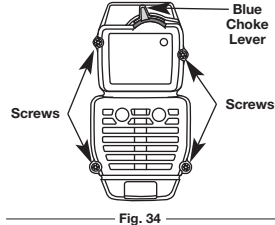

Fig. 34
1. Remove the four (4) screws securing the air filter/muffler cover (Fig. 34). Use a flat blade or T20 Torx bit screwdriver.
2. Place the blue choke lever in Position 2 (Fig. 34) and pull the cover from the engine. Do not force.
2. Insert the four (4) screws into the holes in the air filter/muffler cover (Fig. 34) and tighten. **Do not over tighten.**